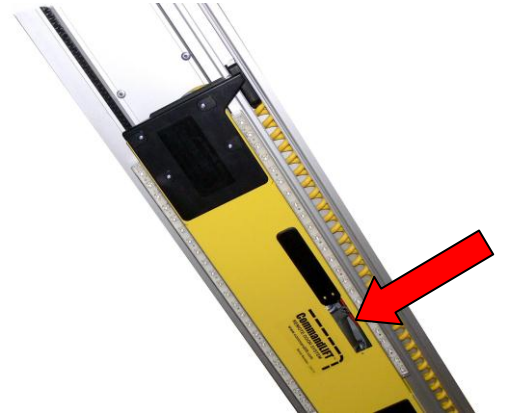

Figure 3 – Access Cover
3. Open the black access panel on the motor unit (see figure 3) and you will see a metal lever. Insert a screw driver in the hole on this lever and pull the lever towards the roll-up door.
4. Open the black access panel on the motor unit (see figure 3 on the previous page) and you will see a metal lever. Insert a screw driver in the hole on this lever and push the lever away from the roll-up door. This will engage the motor unit with the gears and will allow the motor unit to operate the roll-up door. The lever must “SNAP” into place or the gears will not mesh properly.
1. Open the Access Panel (see figure 3) on the **CommandLIFT™** motor unit.